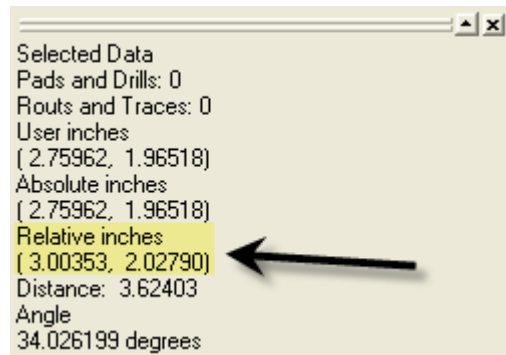

Figure 20
1. Determine the layer type by viewing the file name displayed in the layer list – See Figure 20: